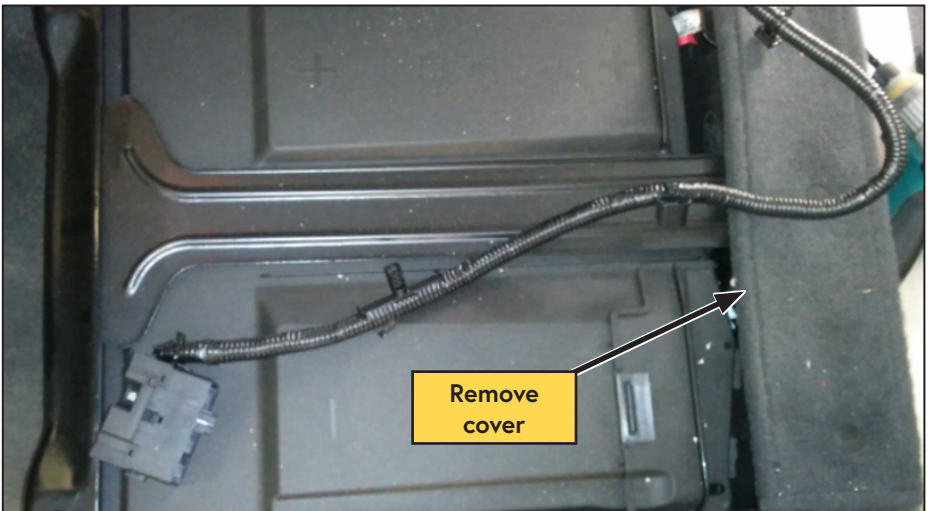

Figure 7 — Battery cover
- Remove the 2 bolts underneath the piece of carpet at the rear of the battery cover retaining plate. Remove the metal bracket, then lift the plastic tabs on the rear of the battery cover to remove the battery cover (Figure 7).